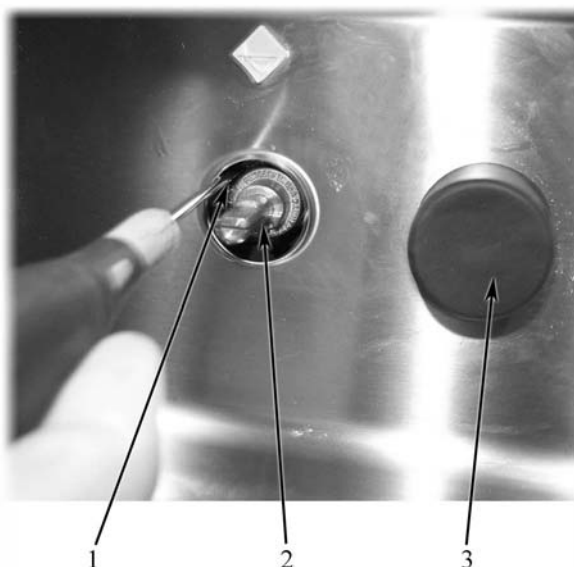

Fig. 9
- To operate with liquid gases, the adjustment screw (item 1 in Fig. 9) must be screwed right down.
- For other gases, remove the knobs, insert a screwdriver through the hole and adjust the screw (item 1 in Fig. 9).